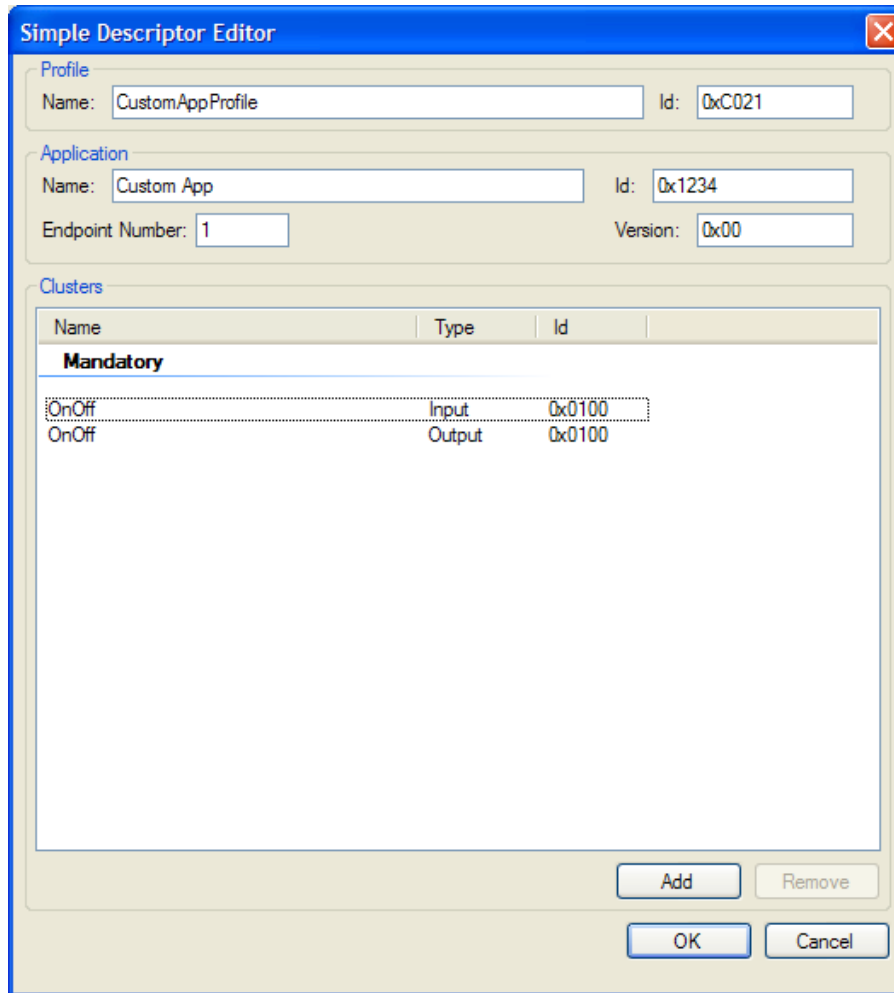

Figure 2-2. Custom Application Simple Descriptor
2. Modify the endpoint and simple descriptor to contain the information depicted in figure 2.2 below (endpoint number 1, profile 0xc021, application id 0x1234, an input and output OnOff cluster 0x0100).
After clicking this button, the Simple Descriptor Editor window appears as shown in Figure 2-2. Modify the endpoint's simple descriptor to contain the same information as shown in Figure 2-2.